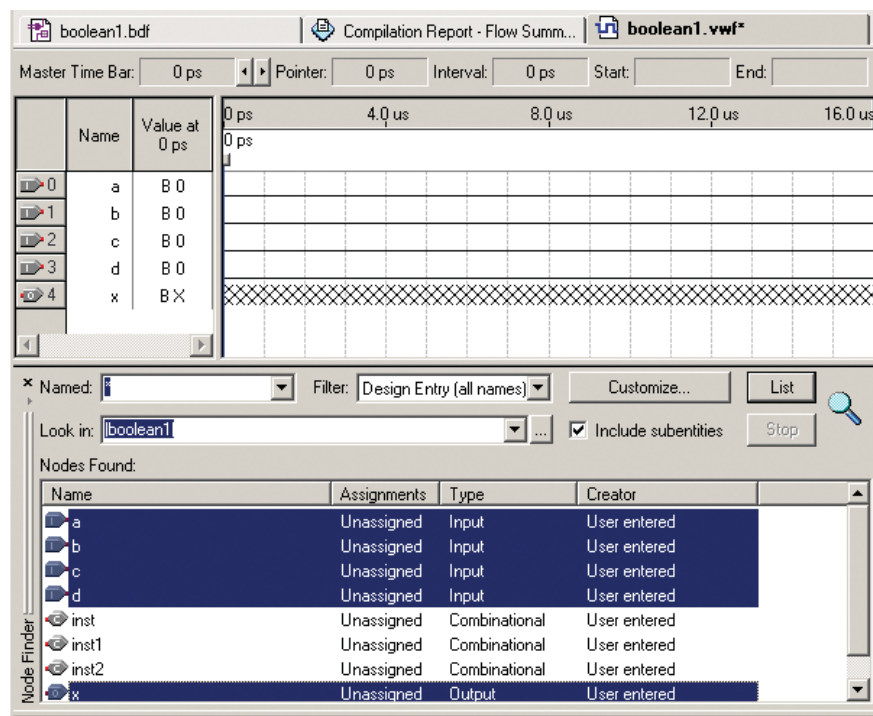

Figure 4-35 Dragging the input/output names from the Node Finder screen to the *vwf* screen.
24. Next we will use the computer mouse to drag the input and output names from the Node Finder screen to the *boolean1.vwf* screen. You can do this by using the mouse to drag each individual input/output with the left mouse button, or you can highlight all five names by holding the CTRL key while you left-click on each of the five input/output names, then drag them all at once (see Figure 4-35).